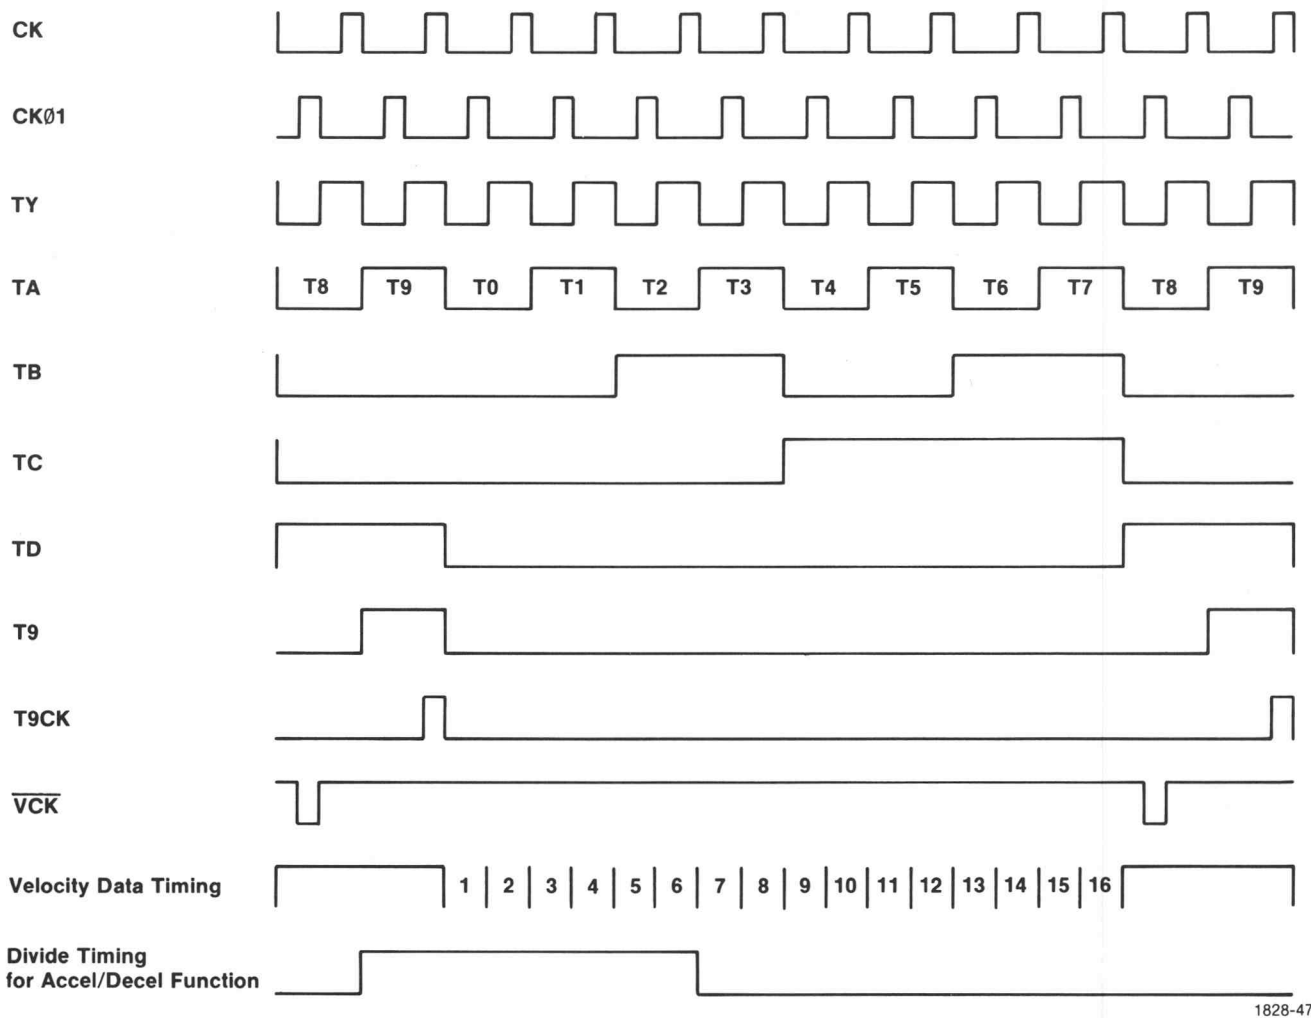
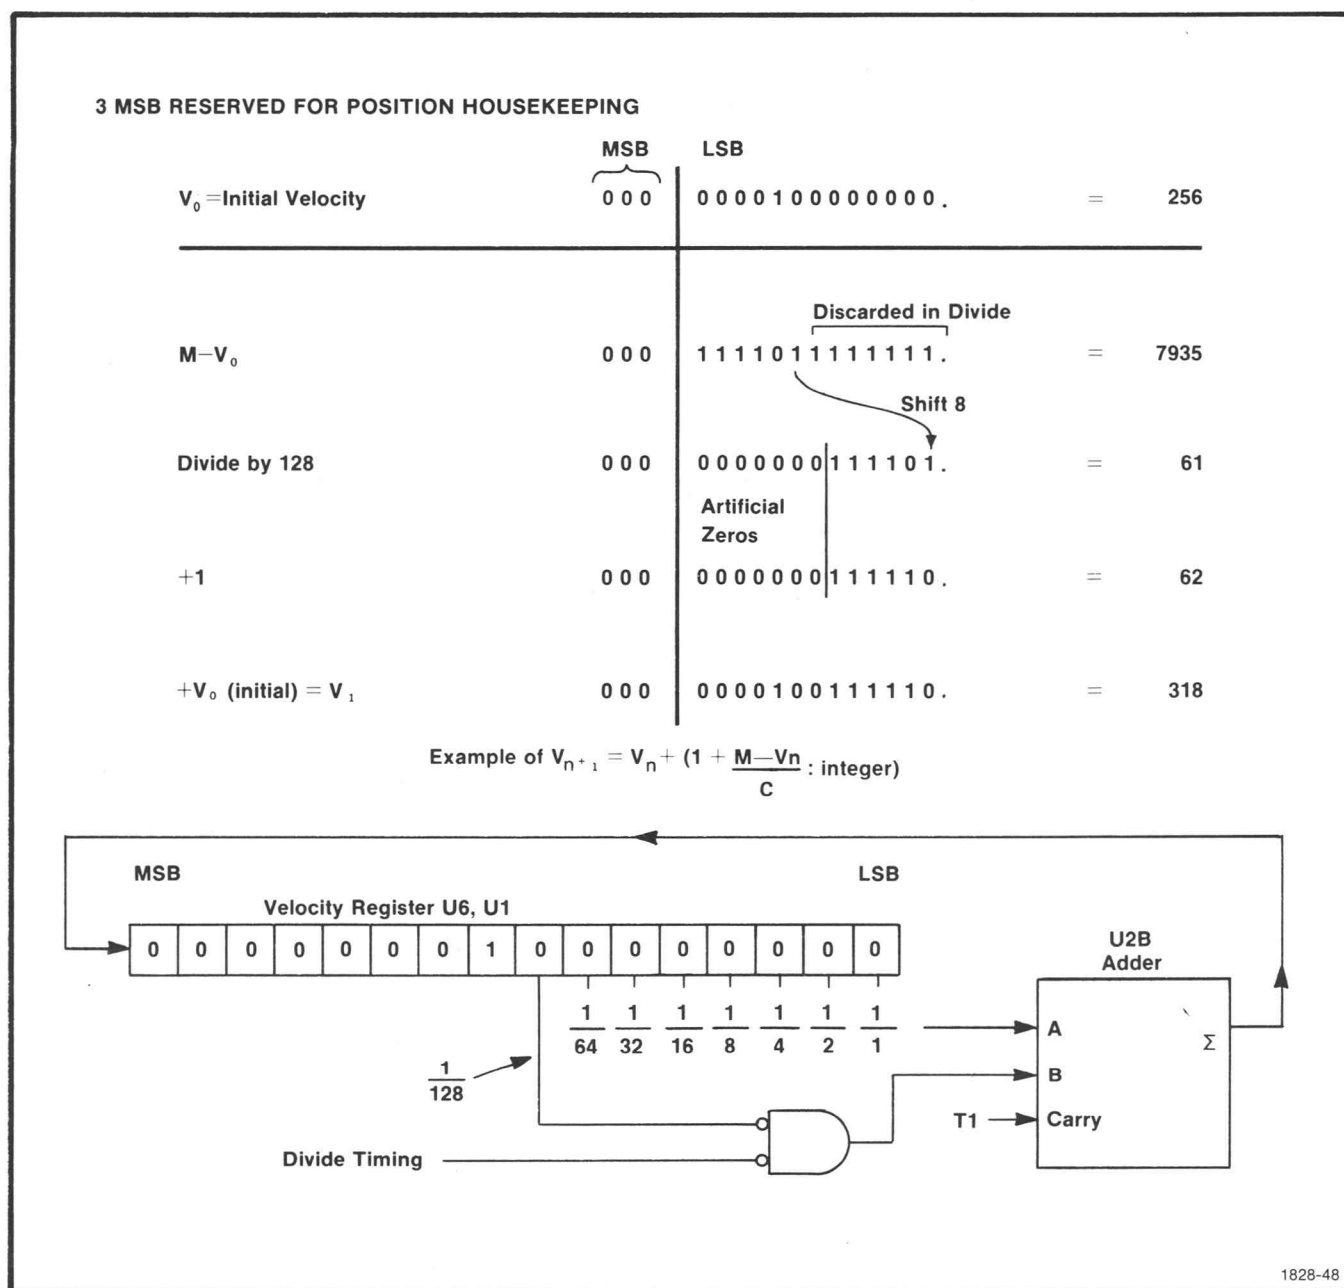

Fig. 6-15. Velocity Timing Diagram.
Fig. 6-16. Processing diagram for the acceleration/deceleration control.
Refer to the timing diagram of Fig. 6-15. Basic timing signals from the Timing card are CK, CK01, TA, TB, TC, TD, and T9. From these the TY,  $\overline{VCK}$ , and  $\overline{CK+CK01}$  signals are produced.  $\overline{CK+CK01}$  (output of U12B) is the inverse of the 2 MHz clock signal on the Timing card, partially compensated for gate delay times.  $\overline{VCK}$  is equal to  $\overline{CK01}$  appearing during plotter time T8.  $\overline{VCK}$  is used to latch the overflow carry from U7A into flip-flop delay line U3. It is also used to clock the RMPSTP frequency divider (U3) on the Velocity Compensator card that generates RMPGATE. TY has twice the frequency of TA and is used to generate constants on both the Velocity Generator and Velocity Compensator cards. It also provides timing to clock the velocity storage registers on the Velocity Compensator card.
Refer to the Velocity Generator schematic. The BCD decoder (U20) uses the plotter timing signals (Fig. 6-15) to generate constants used in velocity generation. Data selector U18A selects either a velocity constant generated directly at the BCD decoder or the output of the Velocity Register (U6 and U1). Serial binary numbers on the outputs of BCD decoder U20 have values of  $2^0$  on pin 1,  $2^6$  on pin 4,  $2^8$  on pin 5,  $2^{12}$  on pin 7, and  $2^{14}$  on pin 9. During the JRUN period preceding the RUN Sequence, the Velocity Register is preloaded with the value of  $2^8$  or 256. The output of the Velocity Register on line  $\overline{V32}$  is seen by the data selector U18A as having twice the register velocity. Thus the initial velocity value seen by the Digital Integrator during an acceleration sequence is 512, which corresponds to a pen velocity of 0.488 inches per second. The velocity selection criteria used is illustrated in Table 6-6.
Refer to the block diagram of the Acceleration/Deceleration Control (Fig. 6-16) and the Velocity Generator schematic. The divide timing for the acceleration/deceleration circuitry is controlled by U5A and U11C. The output of U5A is equivalent to plotter times T9, T0, T1 and T2, except when terminal velocity is asserted. The terminal velocity indicator (TV) is tied to the reset line of U5A. During the divide time (T9, T0, T1, and T2), the first 6 bits of a velocity data value are operated on — two bits per plotter T-time T0, T1, and T2. See the timing diagram Fig. 6-15.
The example in the block diagram shows the processing of the initial velocity value to obtain the next velocity value during the acceleration velocity profile. Fig. 6-16 uses the initial velocity value to illustrate the processing that occurs during the first RMGATE signal in a velocity acceleration sequence.  $M - V_0$  is obtained through the inverse of  $V_0$ . Divide by 128 is a right shift of 8 bits, resulting from the Velocity Register output on the  $\overline{V1}$  line. The  $\overline{V1}$  line is from pin 3 of U1. An initial carry is added via U18D. During RMPDN the initial carry is inhibited.